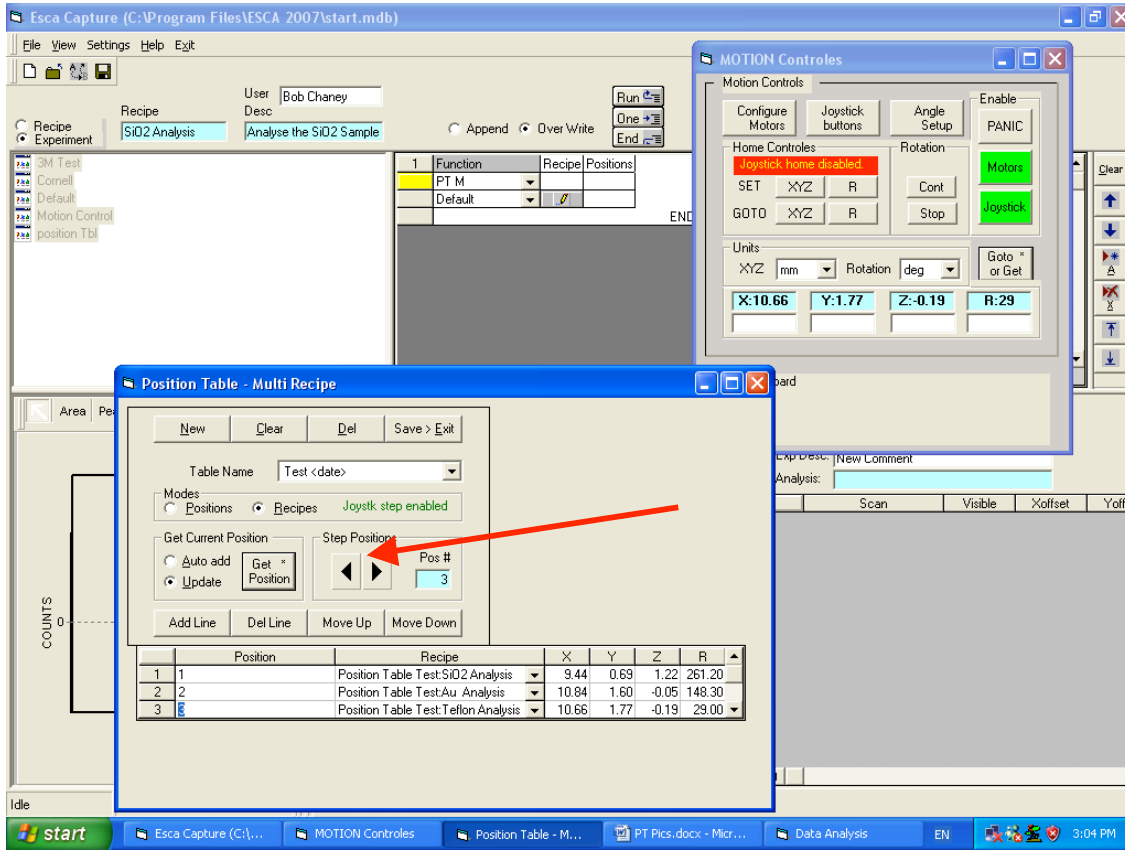

Figure 13. The step position arrows
- 4.2 Check that the desired sample locations are accurately captured into the position table. This can be done most conveniently using the USB joystick while simultaneously viewing the sample carousel through the optical microscope ^{see note 5}. The USB joystick has three hardware buttons; the Get (Position) button which is clearly marked and two other unmarked buttons. The latter two are the Step (Position) buttons which are functionally equivalent to the *Step Positions* arrows in the *Position Table-Multi Recipe* dialog (Fig.13).